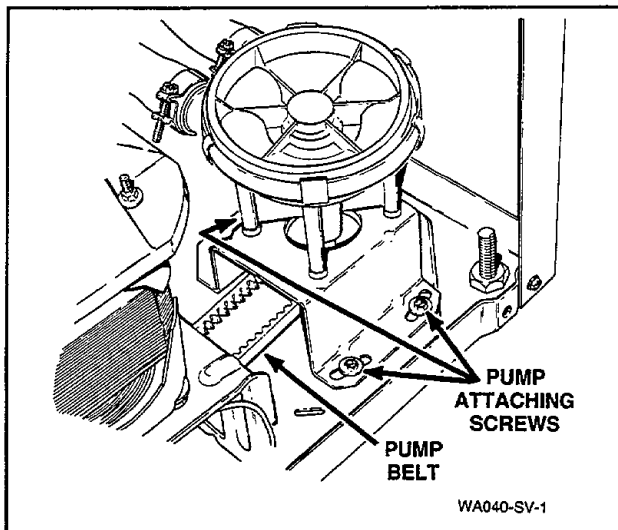

Figure 22
- Remove the two front mounting screws and loosen the rear mounting screw holding the pump and the bracket to the washer base, *Figure 22*. Pivot entire assembly toward motor to loosen belt tension.
- Remove two front mounting screws and loosen the rear mounting screw holding pump and bracket to washer base, *Figure 22*. Pivot the entire assembly toward motor to loosen belt tension.